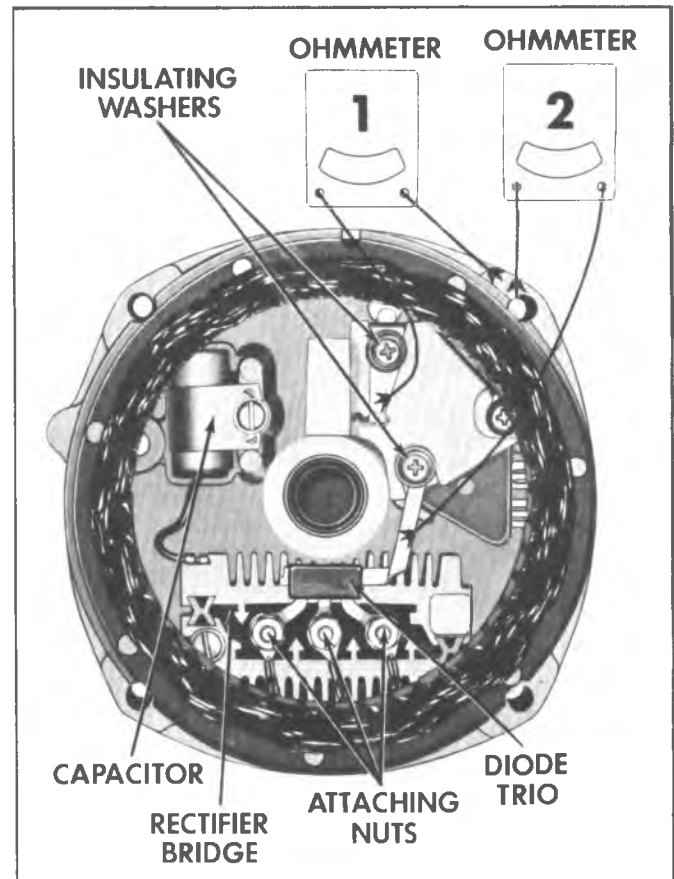

Fig. 7C-Brush Lead Clip Checks
5. Remove screw attaching diode trio to brush holder assembly and remove diode trio from end frame (fig. 7C).
The diode trio may also be checked for a grounded brush lead while still installed in the end frame. Connect an ohmmeter from the brush lead clip to the end frame as shown in Step 2, Figure 7C, then reverse the lead connection. If both readings are zero, check for a grounded brush lead clip caused by omission of the insulating washer, of the insulating sleeve over the screw, or damaged insulating sleeve. Remove the screw to inspect the sleeve. If sleeve or screw are not grounded, replace regulator.
Voltage Reg./Brush Lead Clip Check (fig. 7C)
Connect an ohmmeter from the brush lead clip to the end frame as shown in Step 1, Figure 7C. Then reverse lead connections. If both readings are zero, either the brush lead clip is grounded or the regulator is defective.
Brush Holder and Regulator Replacement (fig. 7C)